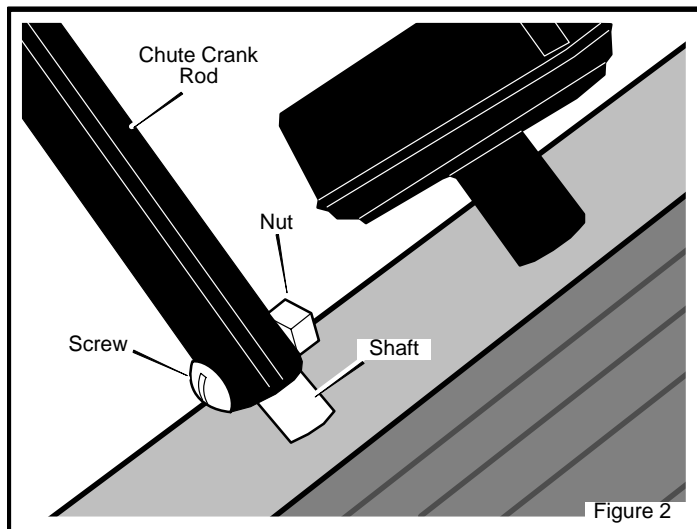

Figure 2
1. Remove the **screw** and **nut** from the **shaft** (see Figure 2).